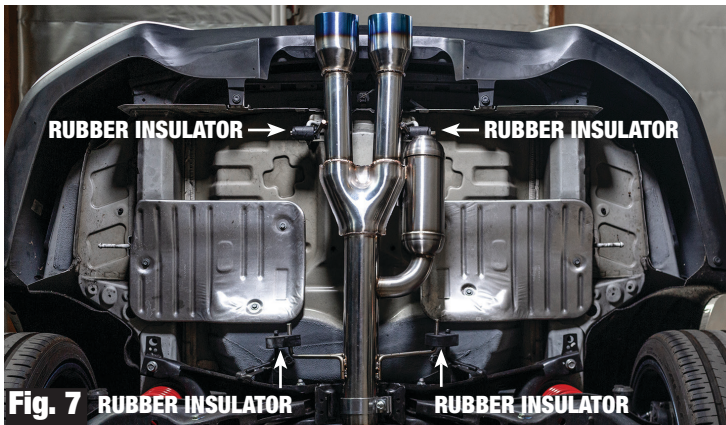

Fig. 7 RUBBER INSULATOR RUBBER INSULATOR
3. Lubricate the four rubber insulators near the rear of the vehicle. Slip the rear pipe onto the open end of the mid pipe. (See Fig. 7)
4. Starting from the two hangers closest to the front of the vehicle, place them into the lubricated rubber insulators. Place the last two rear hangers into the rear most two rubber insulators. (See Fig.7)